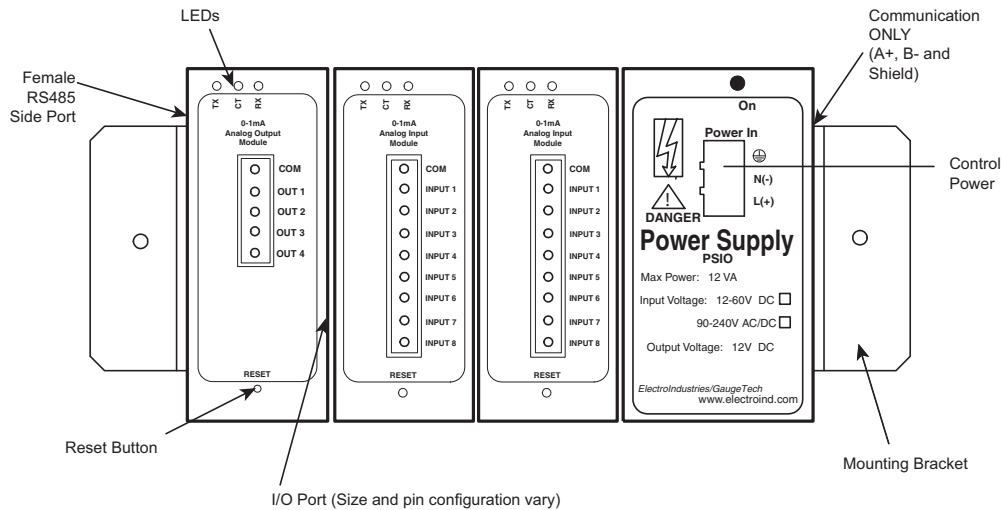

Figure 11.6: PSIO with Multiple External I/O Modules
6. Attach a PSIO (power supply) to the right of each group of I/O modules it is supplying with power (see Figure 11.6). The PSIO supplies 12VA at 125V AC/DC. See sections 11.8.6 - 11.8.8 for I/O modules power requirements.